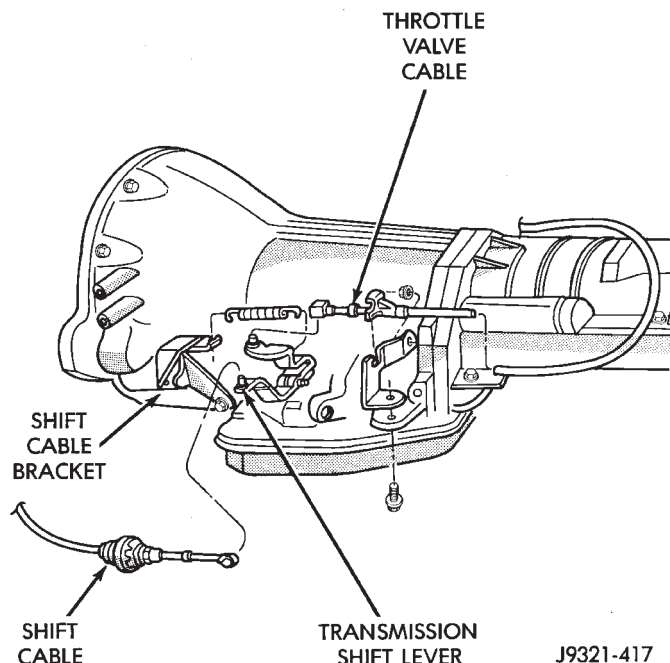

Fig. 175 Shift Cable Attachment At Transmission-Typical
(4) Unsnap cable from cable mounting bracket on transmission (Fig. 175).
(5) Slide cable eyelet off transmission shift lever.
(6) Verify transmission shift lever is in Park detent by moving lever fully rearward. Last rearward detent is Park position.
(7) Verify positive engagement of transmission park lock by attempting to rotate propeller shaft. Shaft will not rotate when park lock is engaged.
(8) Slide cable eyelet onto transmission shift lever.
(9) Snap shift cable adjuster into mounting bracket on transmission.
(10) Lock shift cable by pressing cable adjuster clamp down until it snaps into place.
(11) Lower vehicle and check engine starting. Engine should start only in Park and Neutral.